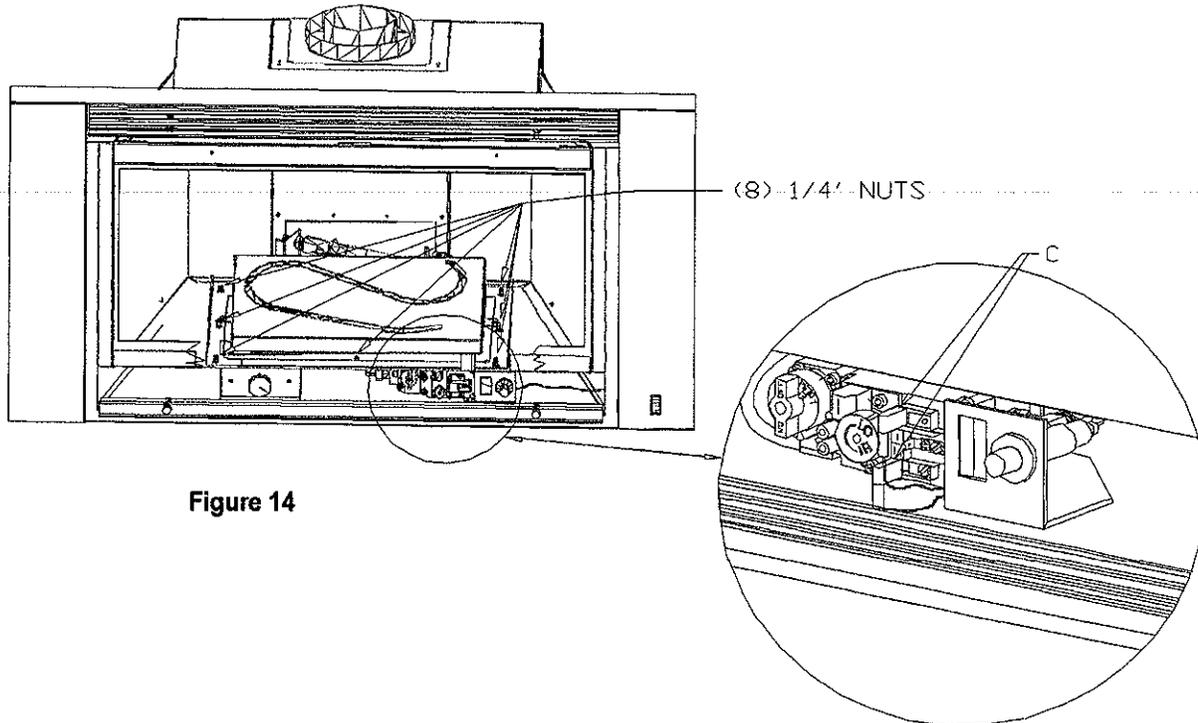

Figure 14
1. Place the baffle inside the top of the firebox. Rest the front edge of the baffle on top of the extended lip and align the center slot on the back edge of the baffle to the hex head screw (A) in the firebox back and tighten.
2. Secure baffle to the firebox by aligning the left & right holes in the baffle (B) to the holes in the firebox and secure with the (2) hex head screws (included in components packet).
J. REINSTALL MILLIVOLT BOARD INSTALLATION. See Figure 14 .
Refer to figure 14 page 11.